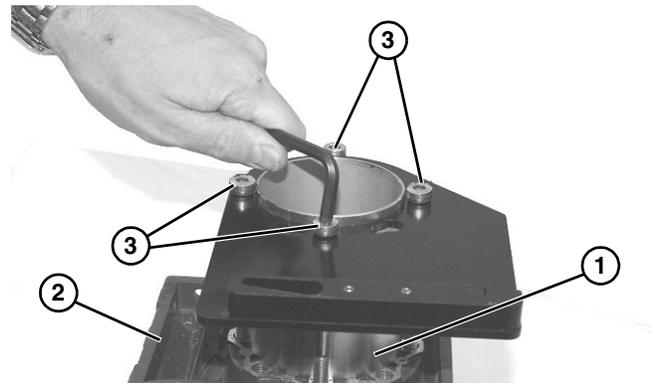

Figure 13
- Install coupler housing (**Figure 13, item 1**) to gear reducer (**Figure 13, item 2**) and tighten screws (**Figure 13, item 3**).